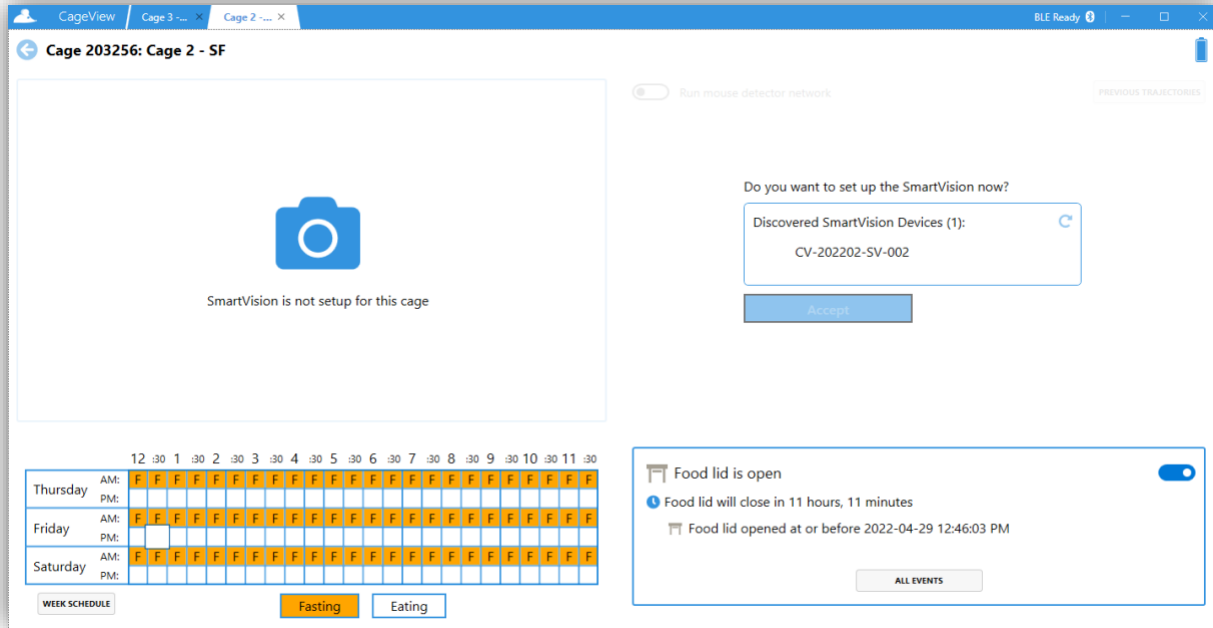
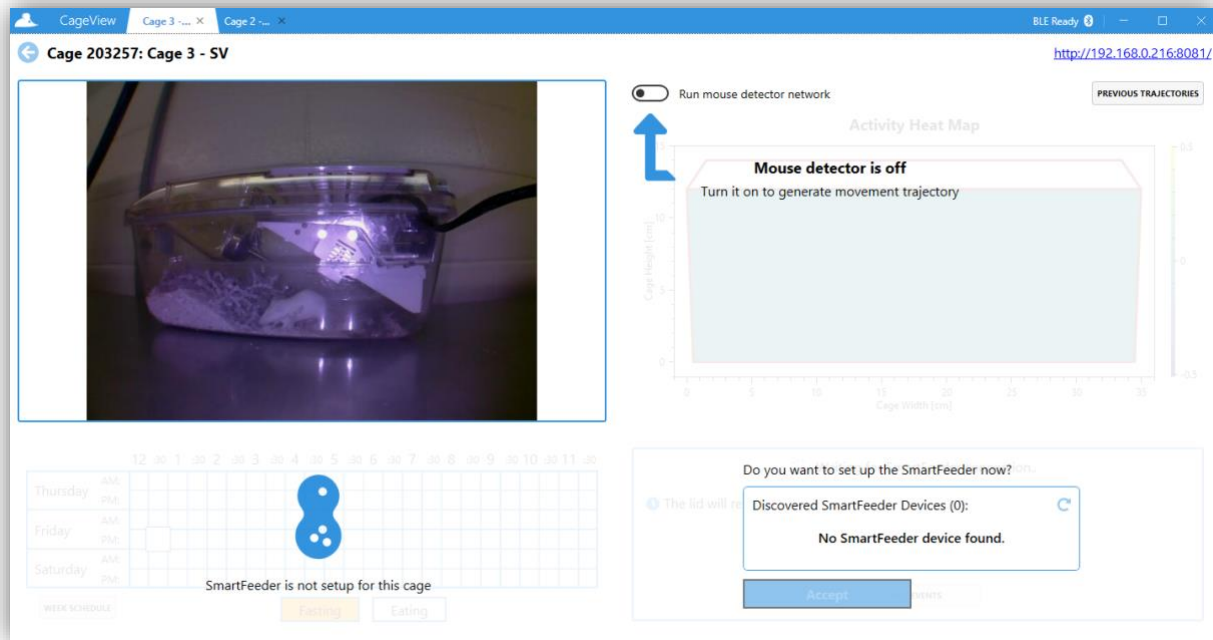

Figure 16. Opened BLE CageView, SmartFeeder only
Figure 17. Opened BLE CageView, SmartVision only
5.1.12. The BLE CageView window with only the SmartFeeder connected is shown in **Figure 16**, and **Figure 17** shows a window with only the SmartVision connected.